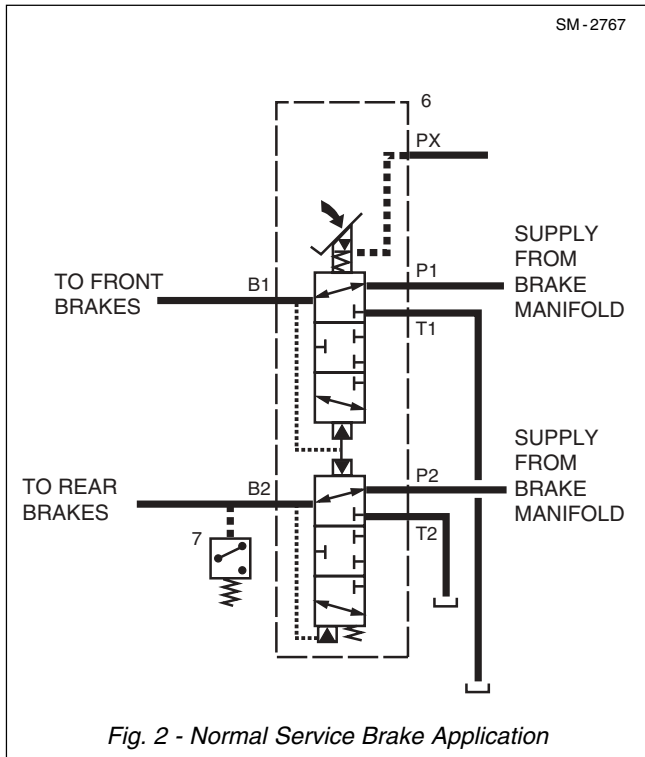

Fig. 2 - Normal Service Brake Application
Refer to Fig. 2. When the operator depresses pedal assembly (1), piston (7) is moved down and pushes on regulator spring (18) which in turn, pushes upper regulator spool (16) down and pilot pressure pushes lower regulator spool (14) down. As regulator spools (16 & 14) move down, the metering notches move out of the tank cavity and close outlet ports 'B1' and 'B2' off to tank port 'T'. Regulator spools (16 & 14) continue to move downward until the lower edge of the